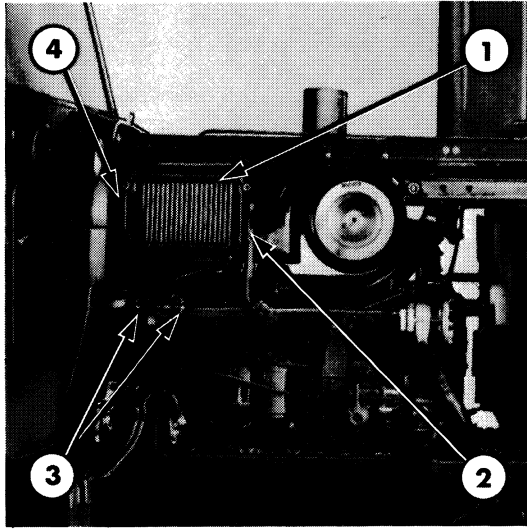

Figure 7
4. To remove the intercooler assembly remove the front and rear mounting bracket bolts, the hose clamps, the intercooler-to-tip turbine fan "V" band clamp and the base mounting bolts, Figure 7. Remove the unit from the tractor.